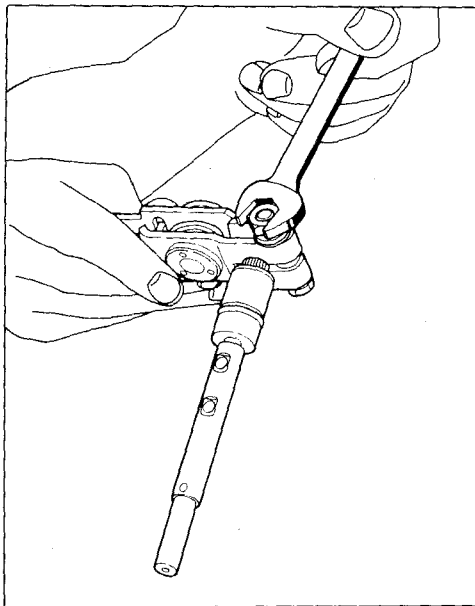

FIGURE 2-28
- (17) Remove operating lever nut, lockwasher, flat washer, screw and spacing washer from the operating lever. (Refer to figure 2-28). Next, pull the operating lever from the shaft and remove the spacing washer.